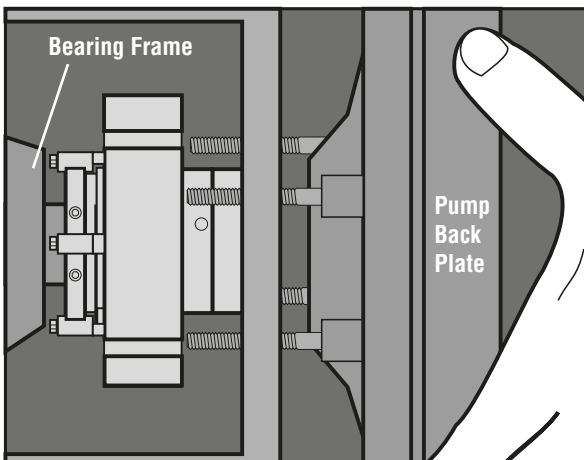

Figure 8
2.4 **Install the pump back plate** (seal chamber) and bolt it in place on the bearing frame. See Figure 8.